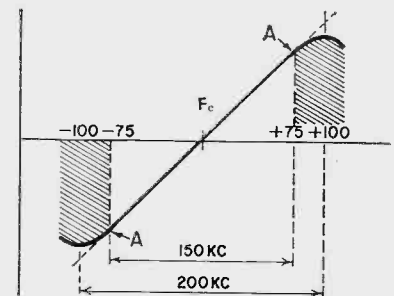

Fig. 1—S-curve of a typical FM detector. Distortion occurs if the FM signal swings past the linear portion into the shaded areas.
Basically, the trouble stems from a discriminator or ratio-detector transformer that does not have enough bandwidth to handle the i.f. signal. Fig. 1 shows the response characteristic of a typical discriminator or ratio detector, commonly called the S-curve. Note that the curve is linear up to a certain point (A) on either side of the center frequency, f_c . Beyond this point, the curve is no longer linear and the detector output is not proportional to the frequency deviation. When the i.f. signal swings into this non-linear area, distortion appears in the output.